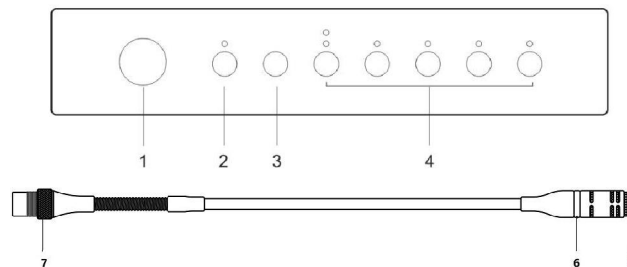

Fig.3
When this mode is selected, the display will read FIFO MODE (First In-First Out), plus the number of delegates who can speak simultaneously. In this mode, the controller keeps track of the order in which the delegate stations are activated. Once the preset limit of simultaneous delegates has been reached, and a new delegate presses the **MIC ON/OFF** key (**fig. 3 ref. 2**) on his microphone base, the **FIRST** station that was active when this limit was reached will be made inactive, and the new delegate station will be activated.
When the PRESIDENT presses the **PRIORITY** key (fig. 3, ref. 3), all DELEGATES will be excluded, and the DELEGATE microphones will not reactivate when their **MIC ON/OFF** key is pressed. These will remain excluded until the PRESIDENT again presses the **MIC ON/OFF** key.
When the PRESIDENT presses the **PRIORITY** key (fig. 3, ref. 3), all DELEGATES will be excluded, but the DELEGATE microphones will be reactivated normally when their **MIC ON/OFF** keys are pushed.
All activated DELEGATE stations will be automatically deactivated after 45 seconds of inactivity. In order to speak again the delegate will have to press MIC ON/OFF again (fig. 3, ref. 2)
When the PRESIDENT presses the **PRIORITY** button (fig. 3, ref. 3), the DELEGATE speaker monitors will reproduce a warning tone.
When the PRESIDENT presses the **PRIORITY** button (fig. 3, ref. 3), the DELEGATE speaker monitor will not produce a warning tone
- All mic LED (**fig. 3, ref. 6**) will start flash during setup code, the LCD will off after setup code.